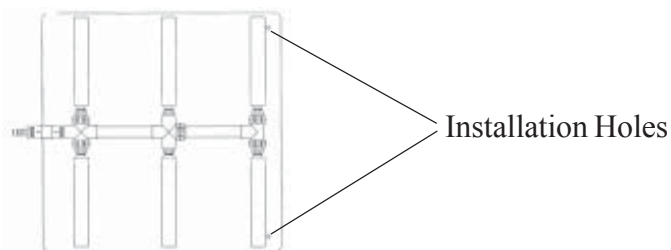

Figure 8
8. Thread a thin piece of nylon rope through the top of one installation hole on the barrier of the diffuser assembly and back up through the bottom of the other installation hole (SEE Figure 8). The length of the rope must be at least twice the depth of the location for the diffuser assembly.